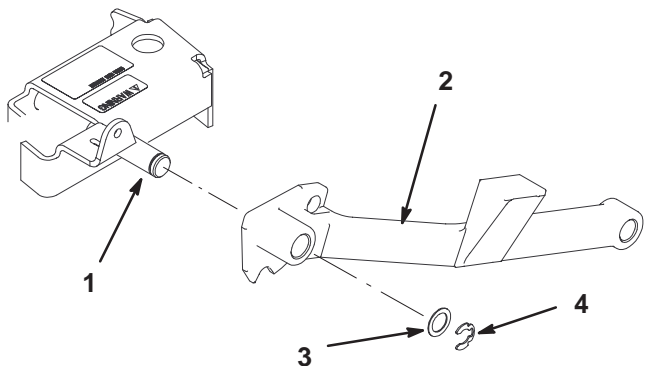

Figure 42
3. Remove the retaining ring and flat washer securing the push arm to the mower (Fig. 42).
6. Place push arm onto carrier frame pin and secure with 1-1/2 in. (38 mm) flat washer and retaining ring (Fig 42).